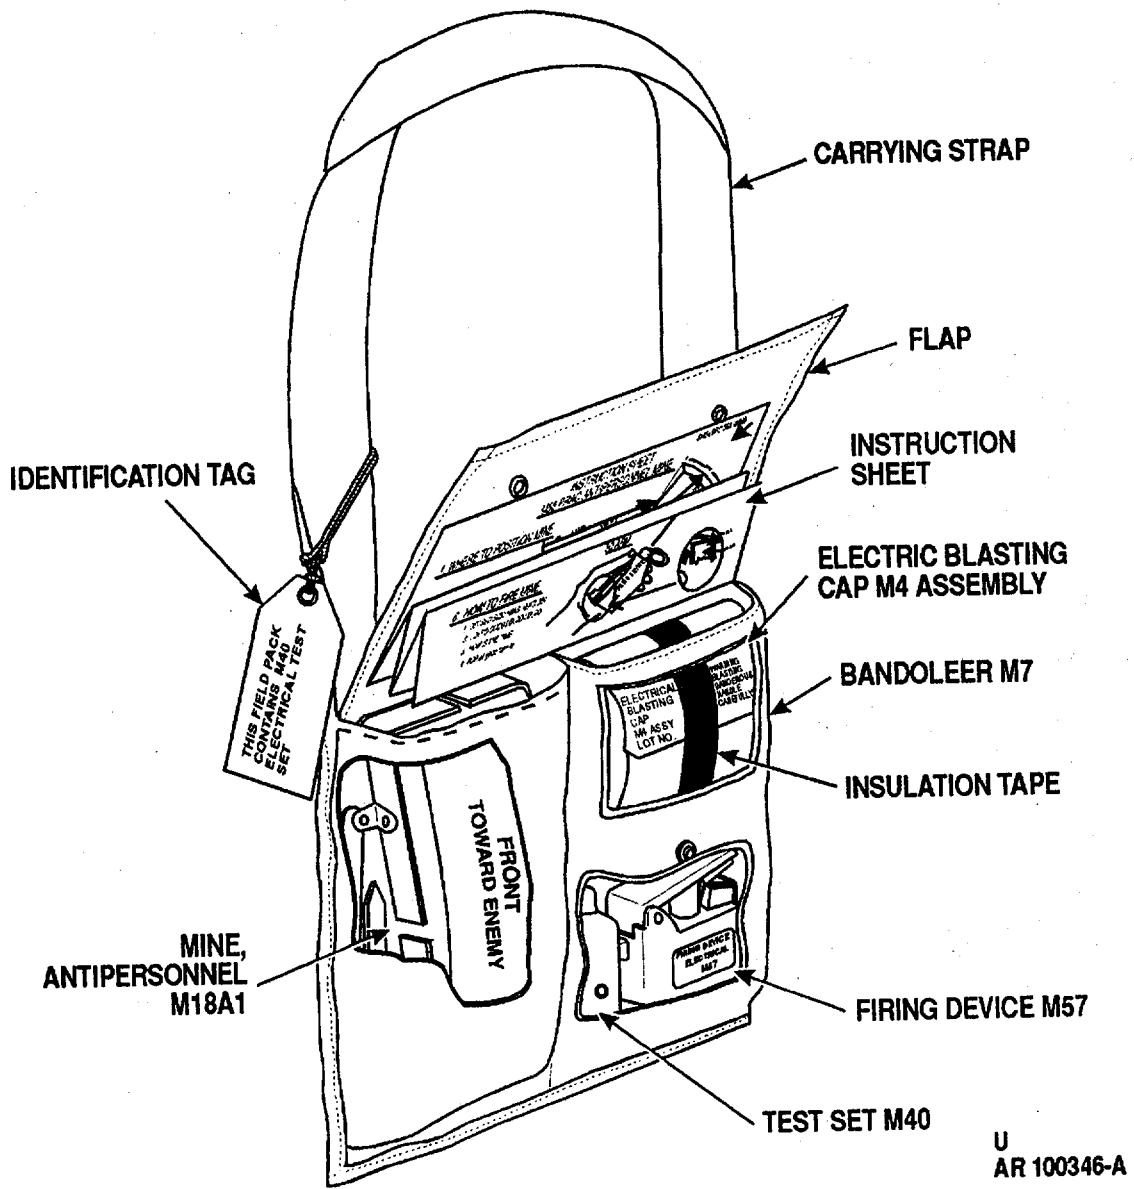

Figure 1-5. Mine, antipersonnel: M18A1 and accessories packed in bandoleer M7.
(2) The accessories of the mine (fig. 1-5) consist of a firing device M57, and hand-held pulse generator, test set M40 (used for checking continuity of mine firing circuit), and an electric blasting cap assembly M4, which initiates main charge of mine. The blasting cap assembly M4 consists of an electric blasting